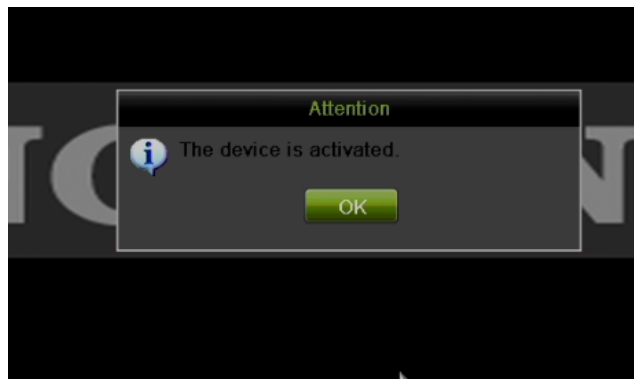

Figure 19 Activation Confirmation Message
3. After an acceptable password has been created, a confirmation message will appear on the screen (**Figure 19**).